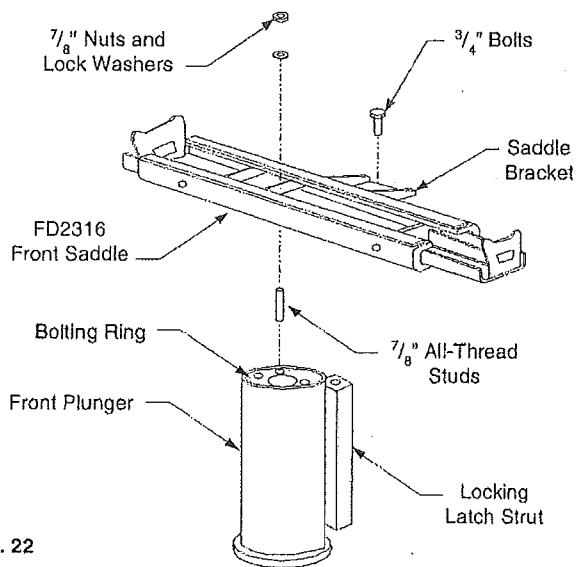

Fig. 22
- a. Clean threads in front plunger bolting ring. Fig. 22.